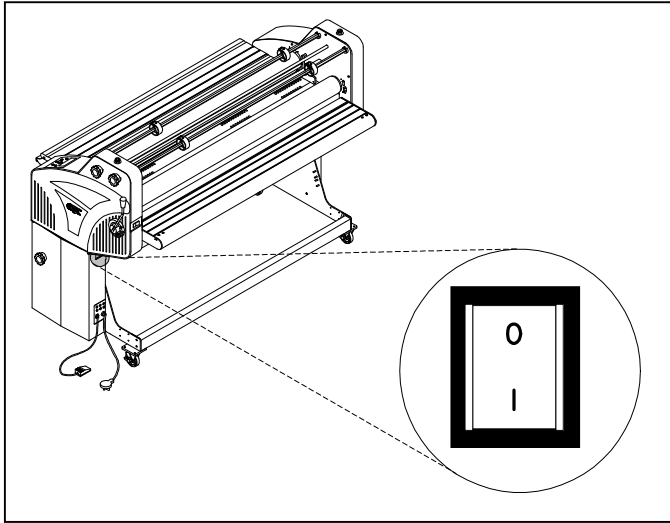

Fig. 5
**A. POWER ON/ OFF:** (Figure 5)